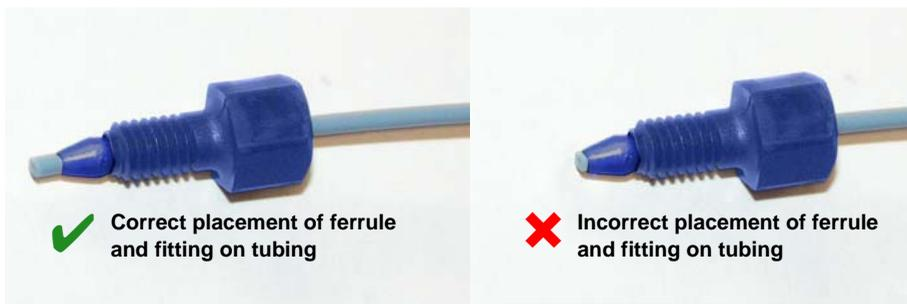

Figure 1-2. Ferrule and Fitting Bolt Placement for Tubing Connections
1. Install the fitting bolt and ferrule onto the tubing. Position the ferrule at least 2 mm (0.1 in) from the end of the tubing (see Figure 1-2).